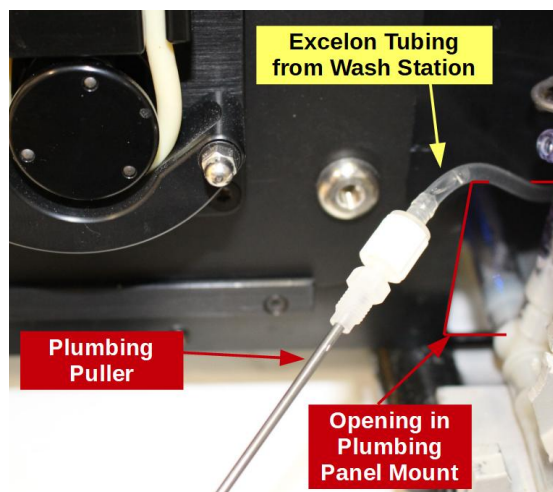

Figure 2. Using the Plumbing Puller to attach the Excelon Tubing.
- Once attached, pull the *Plumbing Puller* through the *Panel* as seen in *Figure 2*, disconnect the *Excelon Tubing* from the *Puller*, and then finally connect it to the open end of the *Filter*.